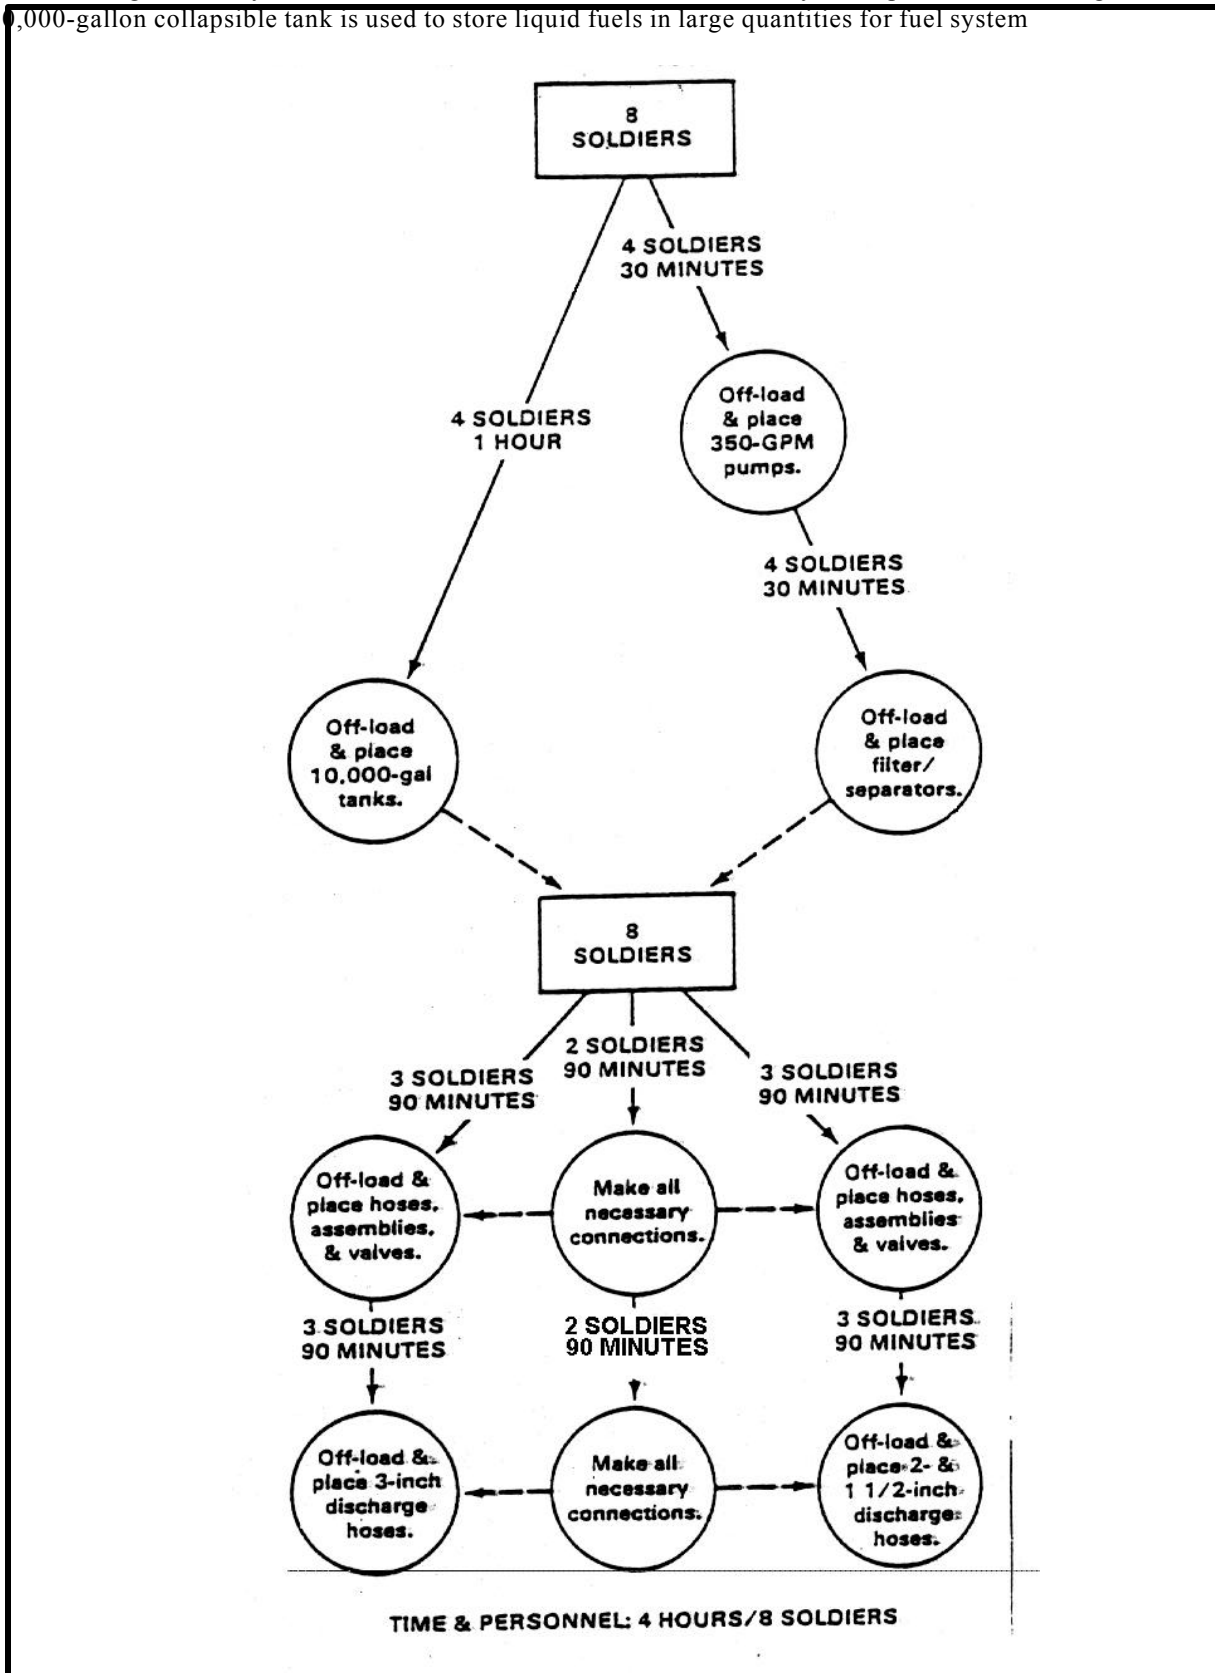

Figure 4-7. Time and personnel requirements to off-load and manifold a FSSP
**Equipment .** The system consists of two 350-GPM pumps, two filter/separators, six 10,000-gallon collapsible fabric tanks, 11 types of fittings, approximately 1200 feet of discharge hose, and 1200 feet of suction hose, various tools and accessory items for connecting to pipelines, and pumping assemblies for connecting fuel transporters to the fuel system. Because the system is modular, it can be adapted to different terrains and situations. Though designed to handle one type of fuel, the system may be divided to handle two types. The system may be designed so that one tank can receive fuel while a second tank is delivering fuel to dispensing facilities. Design and manifold options are further enhanced by the dual filler/discharge assemblies located at the corners of each other on the tanks. Due to the nature of petroleum, the system is susceptible to enemy action and contamination. Depending on the experience of personnel, it should take eight soldiers approximately four hours to off-load, lay out, and connect the manifolds in the FSSP. (Additional time is necessary for required earthwork.) Eight soldiers are needed each shift to operate the FSSP (Figure 4-7, page 4-40).